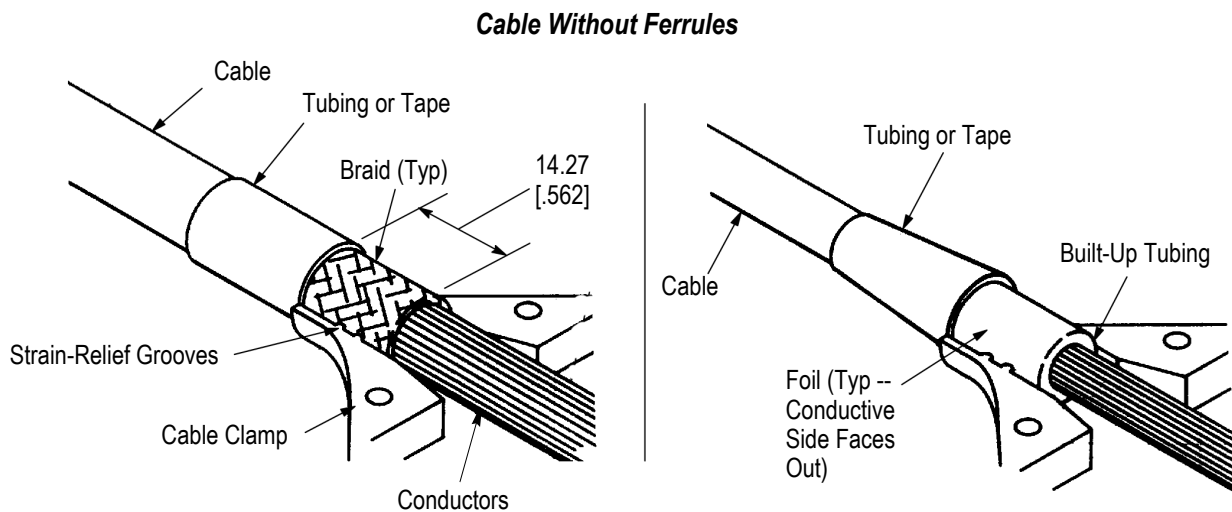

Figure 3
If cable diameter is too small to fit properly into strain-relief, apply heat-shrinkable tubing before working braid over cable jacket to build up the outside diameter of the cable. The inside diameter of the heat-shrinkable tubing should be no more than twice the outside diameter of the cable. See Figure 3.
3. ATTACHING CABLE CLAMP ASSEMBLY (Figure 3)
- Install tape or heat-shrinkable tubing without sealant to secure loose strand ends to cable until cable clamps are installed. The braid should be exposed 14.27 mm [.562 in.] between tape or tubing and conductors. See Figure 3. Use an electric heat gun as the heat source.